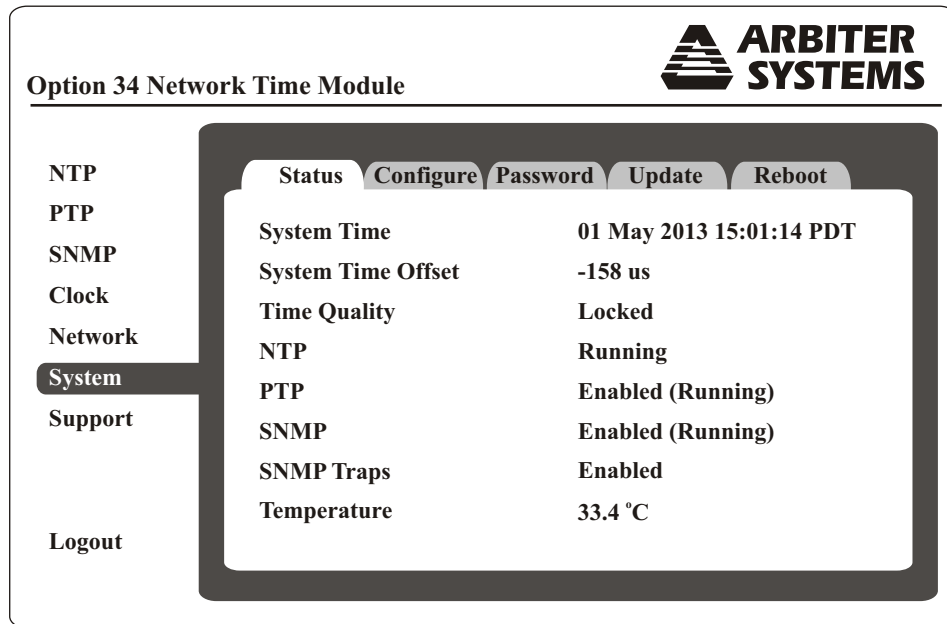

Figure C.23: Startup Page
5. Click the Login button. If you typed in the correct Username and Password, the web interface should appear as shown in Figure C.23.
When logging in to the Option 34 using the web interface, the opening screen should be the System Status information page. This provides an overview of the operation of the Option 34, NTP/PTP servers. Figure C.23 illustrates the opening System Status page.